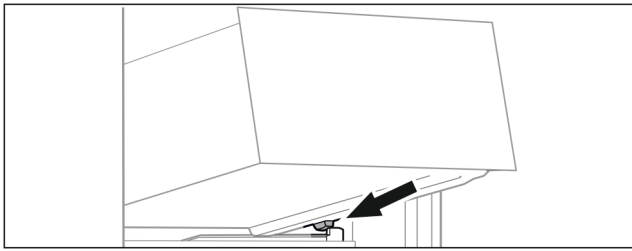

Fig. 135
- ▶ Place drawer at an angle behind the stoppers on the moulded rib. (see Fig. 135)